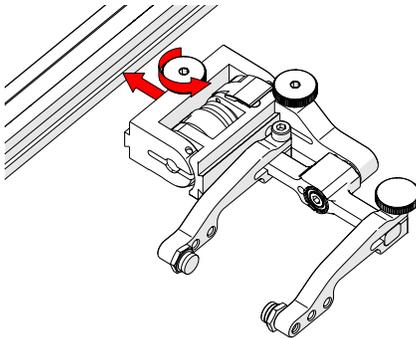

Fig. 148 - Attach to frame bar
1. Rotate the probe holder adjustment knob and attach probe holder to a frame bar (Fig. 148).